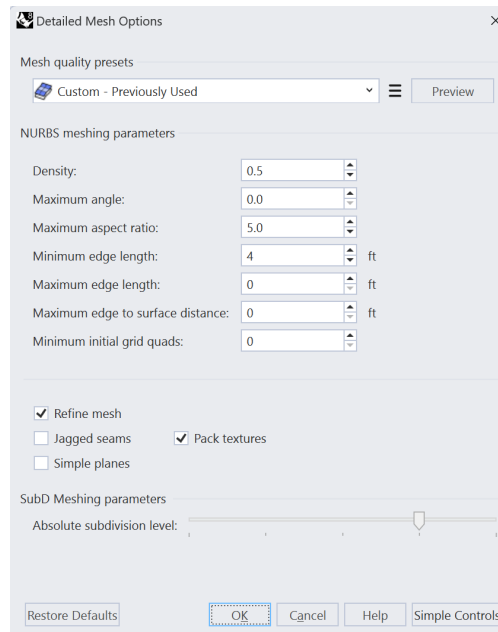

Figure 14: Rhino meshing dialog to create an initial mesh.
14. Select the polysurface and type the command **_Mesh**. If a simplified dialog appears, click on the *Detailed Controls...* button and enter the values as shown in Figure 14.